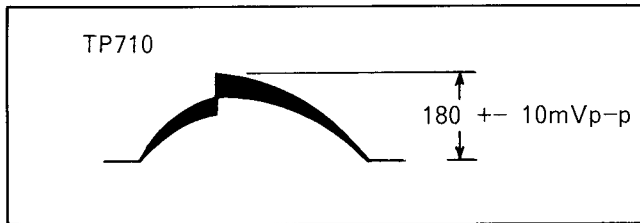

Fig. C36
- (1) Connect a jumper between TP516 and TP520 to open the Iris.
- (2) Aim the camera at the white/gray chart.
- (3) Set the lighting condition so that voltage at TP710 becomes $180\text{mV} \pm 10\text{mVp-p}$ as shown in Fig. C36.